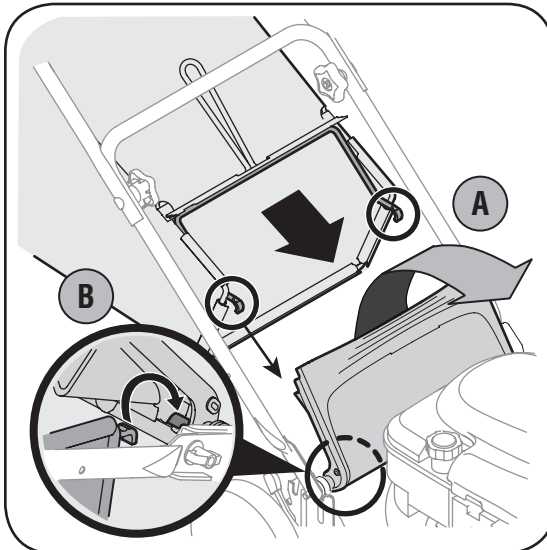

Figure 3-6: Attach the grass catcher.
6. To attach the grass catcher. See Figure 3-6.